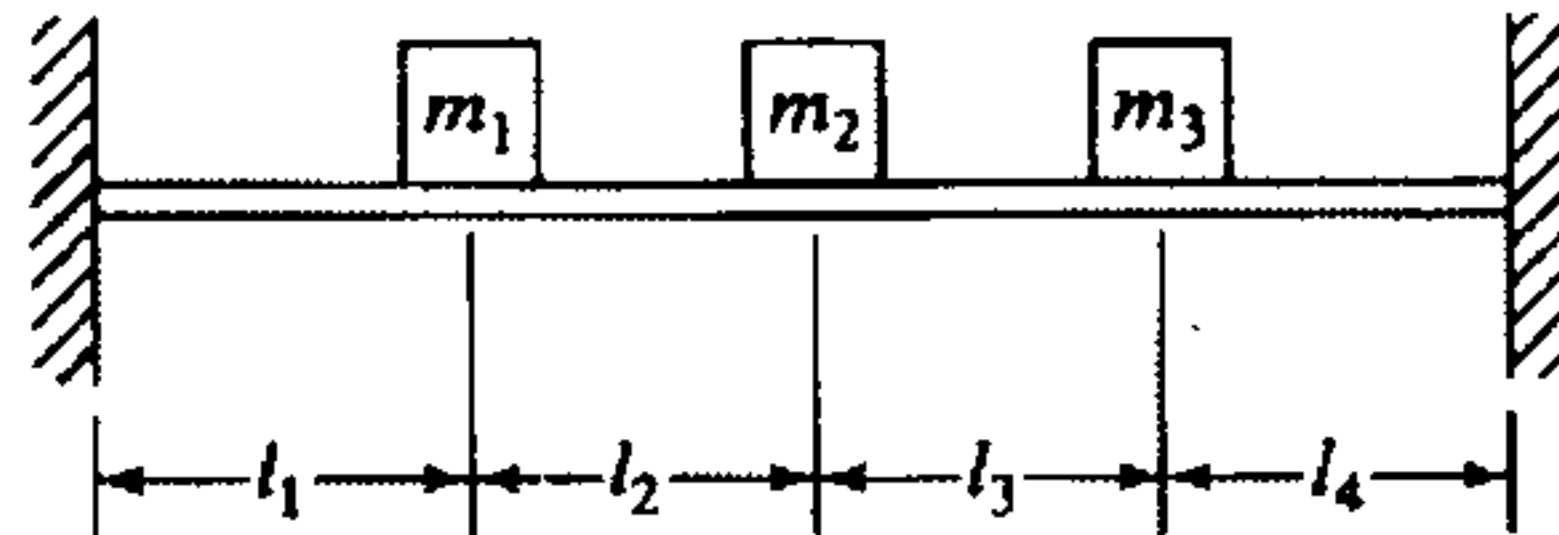

Fig 4
- 4) Determine the flexibility matrix of the uniform beam shown in the figure 4. Disregard the mass of the beam compared to the concentrated masses placed on the beam. Assume all $l_i=1$ 14M